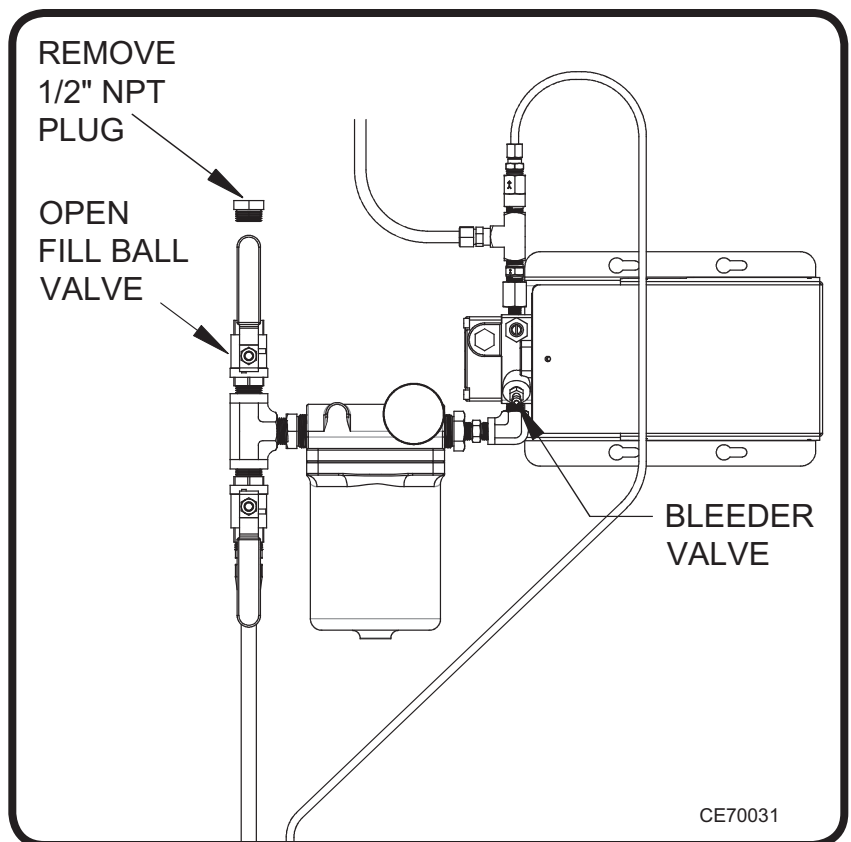

Figure 24: Priming the Metering Pump System
- (1) Refer to Figure 24.
- (2) Remove the 1/2" NPT plug and open the ball valve on the inlet of the filter.
- (3) Pour oil into the inlet of the filter until the suction oil line, filter, and pump head are full.
- (4) Close the ball valve and insert the 1/2" NPT plug.
- (5) If the pressure oil line (from the pump to the furnace) is longer than 25 feet it is recommended to disconnect the oil line at the furnace and position a bucket under the line to catch the oil.
- (1) After the burner starts, press and hold the reset button for 15 seconds until the yellow light on the primary control turns on (the burner will shut off).
- (2) Release the reset button. The yellow light will turn off and the burner will start again.
- (3) Within 15 seconds click (push and release) the reset button. This will transition the primary control to “Pump Prime” mode which will bypass the flame sensor and keep the pump on for 4 minutes.
- (4) Open the pump bleeder valve and purge all air bubbles from the pump (refer to figure 24).
- (5) After 4 minutes the yellow light on the primary control will turn off and the control will automatically return to standby mode.
- (6) Repeat steps 1 - 5 until the pump is fully primed and oil is delivered to the burner.